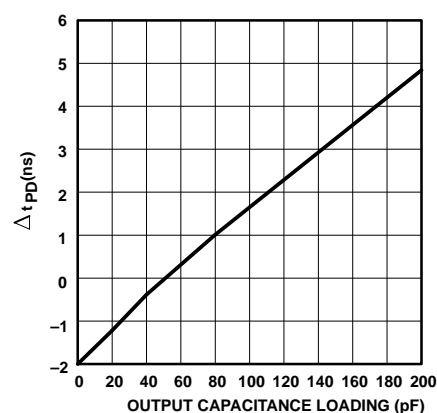

Figure 2. Δt_{PD} vs Output
7. Refer to Figure 2 for Δt_{PD} vs output capacitance loading.